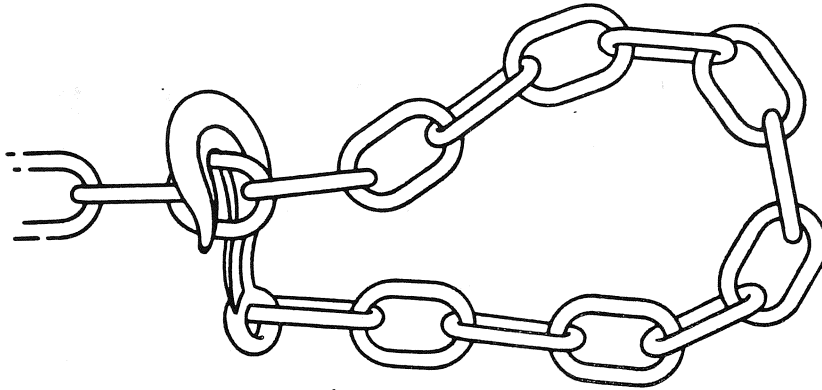

Figure 8.20. Chain Slings
Chain sling is not used for making heavy lifts for two reasons: (1) flaws are more difficult to detect in chain than in wire rope; and (2) the links in a chain big enough to carry our larger assemblies would be difficult to snake in and around some of the complex shapes that must be handled. Although chain slings have their limitations, they are useful for rigging in particular applications where heat and acids are present. One advantage of a chain which makes it very useful as a sling, is that it may be shortened by merely positioning a new link in the grab hook throat. Never place the point of the hook through the center of the link (see Figure 8.20 for correct attachment).